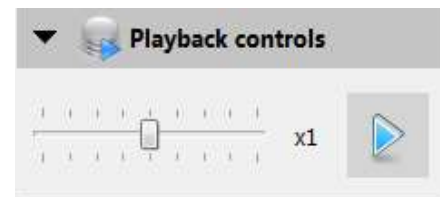

Figure 6. Playback Controls
**Playback controls** appear on the sidebar in playback mode. The playback controls include a start/pause button and a slider bar to speed up or slow down playback (Figure 6). Playback of \*.son (BlueView data) files includes a Sound Velocity input box to allow user to change the sound velocity value with which the data are presented.